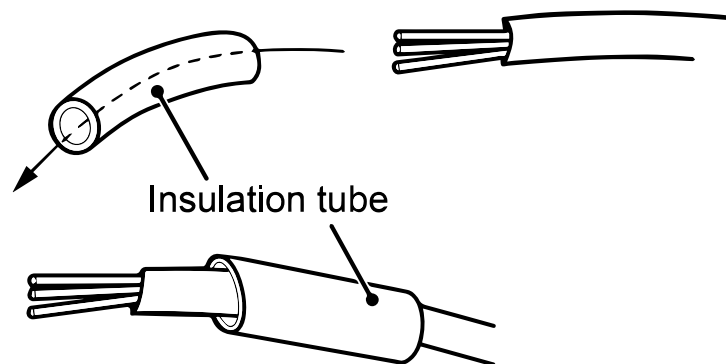

Fig. 2.30
For all terminal wiring (Refer to Fig. 2.30):
5. Lead the thermostat wire and power cord through the insulation tube, as shown in **Fig. 2.30**.